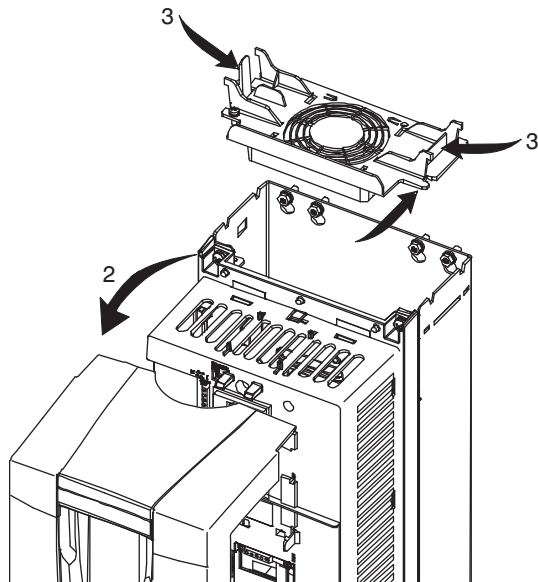

Fig. 39 — Remove Top Cover on AHC550 VFD
3. Press together the retaining clips on the top cover and lift (see Fig. 39).